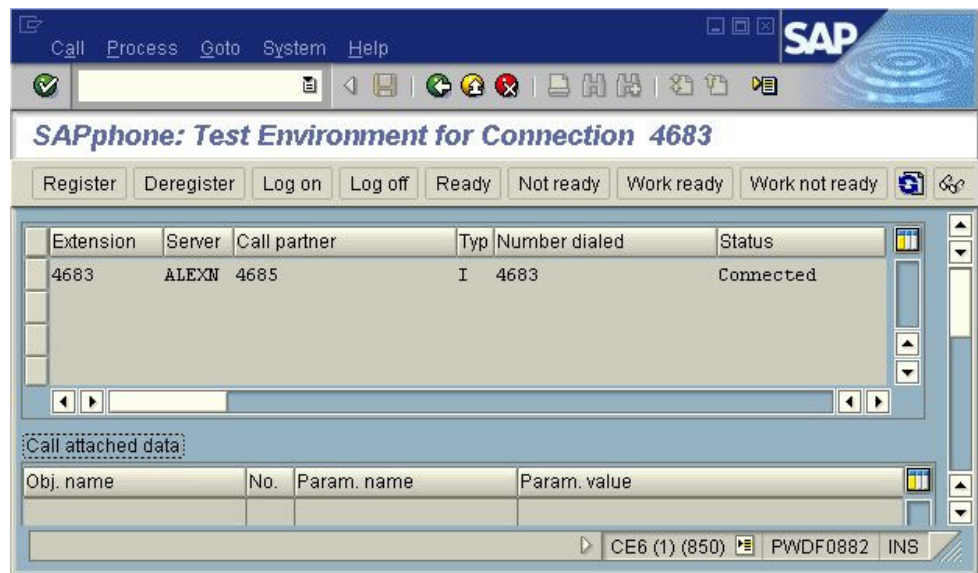

Figure 27: SAP: Connected Call
6. Accept the call and refresh the SPHT screen. The SPHT screen now displays the connected call, as shown in Figure 27.